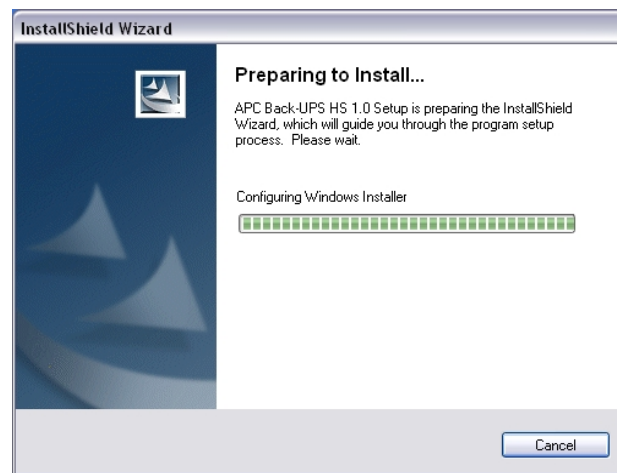

Figure 1. InstallShield Wizard Screen
2. Double-click on the **CD-ROM drive icon** and then double-click on the **setup.exe icon**. The software will start and display the **InstallShield Wizard Screen** (Figure 1). The software will begin the installation process. To stop the installation, click **Cancel**.